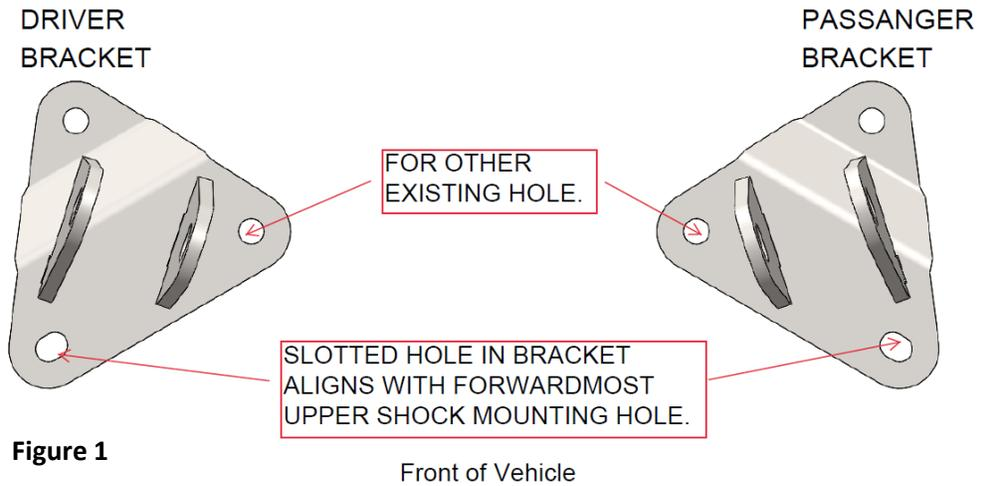

Figure 1
- The upper mounting bracket bolts to the frame using the factory upper shock mounting holes with the 5/16" x 3/4" bolts and nuts provided. One additional 5/16" hole will need to be drilled for each bracket. See **Figure 1 & 2**.